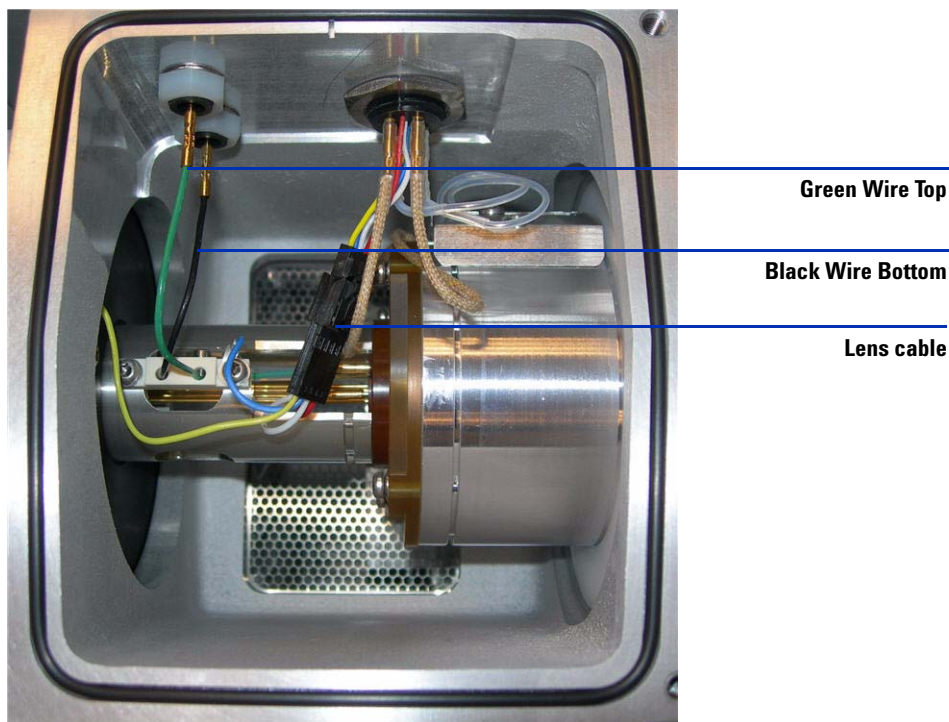

Figure 54 Optics assembly
- 6 Use your finger to push on the skimmer spacer to get the ion optics to pop out of the instrument. Be careful to catch it so it doesn't fall on the floor. See Figure 54.